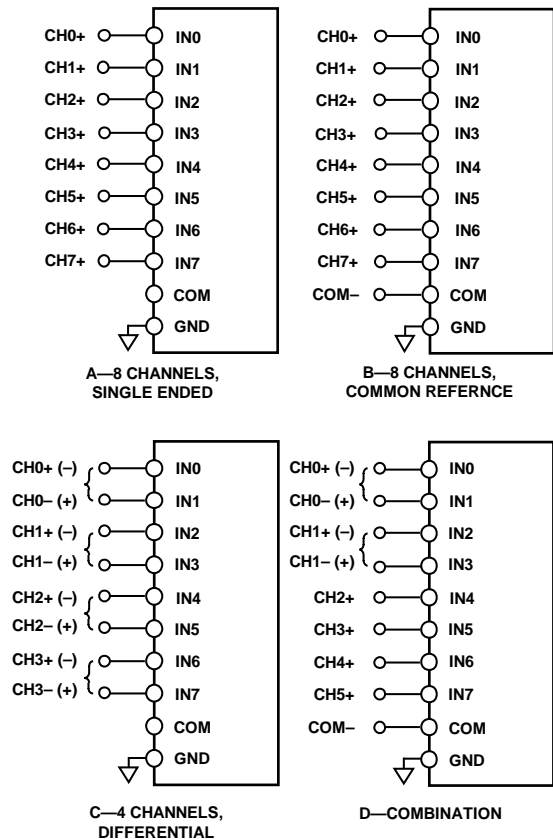

Figure 32. Multiplexed Analog Input Configurations
Figure 32 shows the different methods for configuring the analog inputs with the configuration register, CFG[12:10]. Refer to the Configuration Register, CFG section for more details.
- Figure 32 (A), single-ended referenced to system ground,  $CFG[12:10] = 111_2$ . In this configuration, all inputs (IN[7:0]) have a range of GND to  $V_{REF}$ .
- Figure 32 (B), bipolar differential with a common reference point,  $COM = V_{REF}/2$ ,  $CFG[12:10] = 010_2$ . Unipolar differential with COM connected to a ground sense;  $CFG[12:10] = 110_2$ . In this configuration, all inputs IN[7:0] have a range of GND to  $V_{REF}$ .
- Figure 32 (C), bipolar differential pairs with the negative input channel referenced to  $V_{REF}/2$ ,  $CFG[12:10] = 00X_2$ . Unipolar differential pairs with the negative input channel referenced to a ground sense,  $CFG[12:10] = 10X_2$ . In these configurations, the positive input channels have the range of GND to  $V_{REF}$ . The negative input channels are a sense referred to  $V_{REF}/2$  for bipolar pairs, or GND for unipolar pairs. The positive channel is configured with  $CFG[9:7]$ . If  $CFG[9:7]$  is even, then IN0, IN2, IN4, and IN6 are used. If  $CFG[9:7]$  is odd, then IN1, IN3, IN5, and IN7 are used, as indicated by the channels with parentheses in Figure 32 (C). For example, for IN0/IN1 pairs with the positive channel on IN0,  $CFG[9:7] = 000_2$ . For IN4/IN5 pairs with the positive channel on IN5,  $CFG[9:7] = 101_2$ . Note that for the sequencer, detailed in the Channel Sequencer section, the positive channels are always IN0, IN2, IN4, and IN6.
- Figure 32 (D), inputs configured in any of the preceding combinations (showing that the AD7682/AD7689 can be configured dynamically).